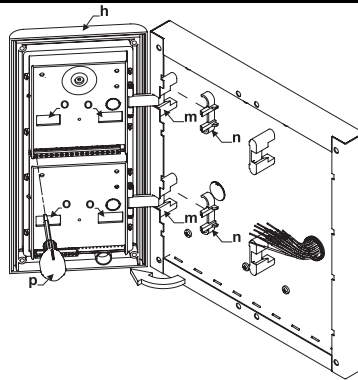

Fig.7
6. As shown in figure 7, open the module support frame **h** as suggested by the pointer, hook the hinge locks **n** to the hinges **m**, make the required connections using the screwdriver provided **p** (blade flat side) and make the required adjustment by adjusting the settings (through openings **o**) and adjust trimmers;